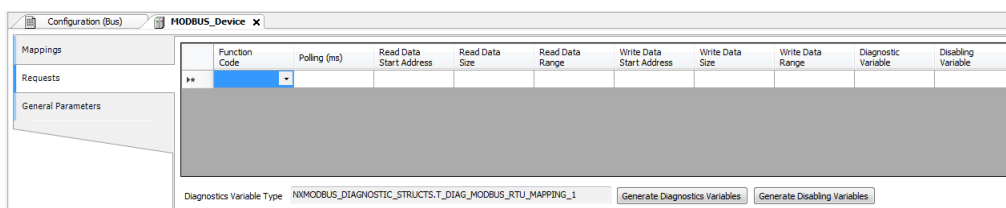

Figure 92: Data Requests Screen MODBUS Master
- Add and configure the MODBUS requests as presented in Figure 92, specifying the function, the scan time of the request, the starting address (read/write), the data size (read/write) and generate diagnostic variables and disabling the request via the buttons at the bottom of the window.